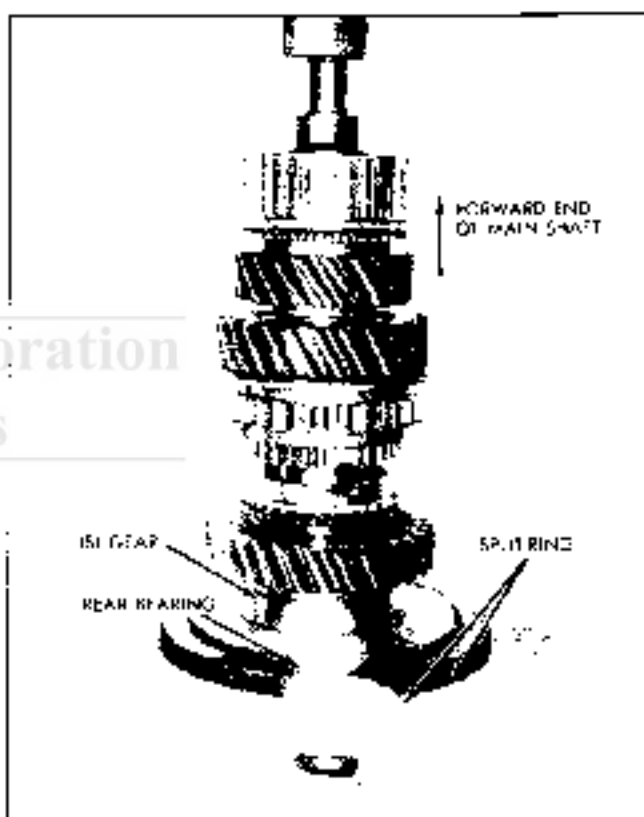

Fig. 7C-15 Installing Rear Bearing
13. Install rear bearing snap ring (Fig. 7C-4).